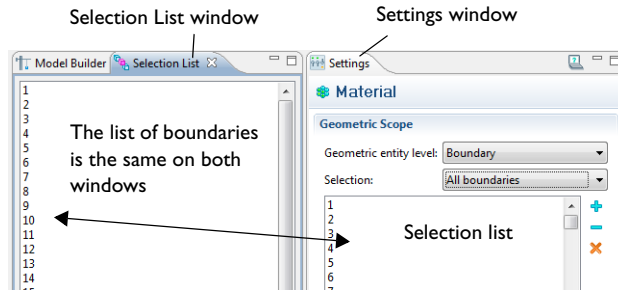
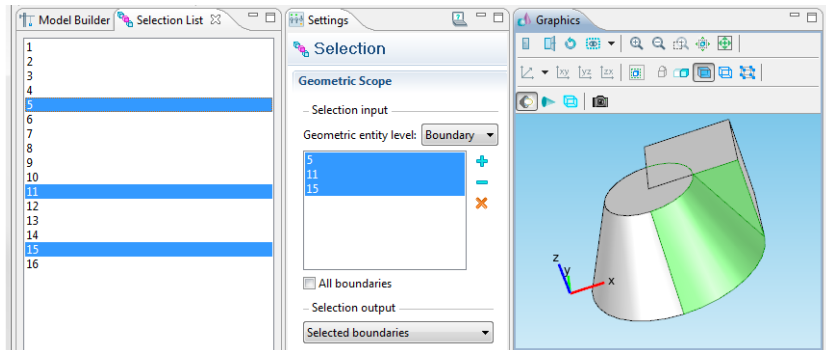
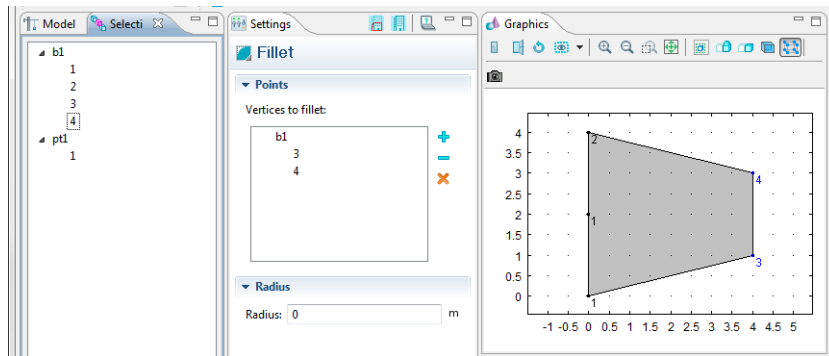

Figure 4-2: Selection List window compared to the Selection list in the Settings window.
Figure 4-4: Using a combination of the Selection List and Selection window to choose boundaries on a 3D model.
Figure 4-5: Using a combination of the Selection List and Selection window to choose fillet points to add to a 2D model.
Figure 4-2 shows the difference between a **Selection List** window and the selection lists that are found in the **Settings** window. Also see Figure 4-4 and Figure 4-5 for examples
- When working in windows with **Selection** or **Geometric Scope** sections (a **Selection** window under a **Definitions** node for example), or anywhere you assign materials, physics, boundary conditions, and other model settings. The **Selection List** displays the specific **Geometric entity level** selected (domain, boundary, edge, or point). See Figure 4-4.